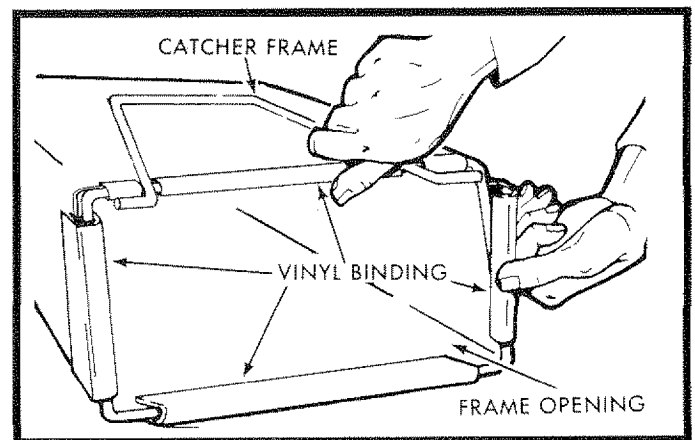

FIG. 2
- Slip vinyl bindings over frame (See Fig. 2).